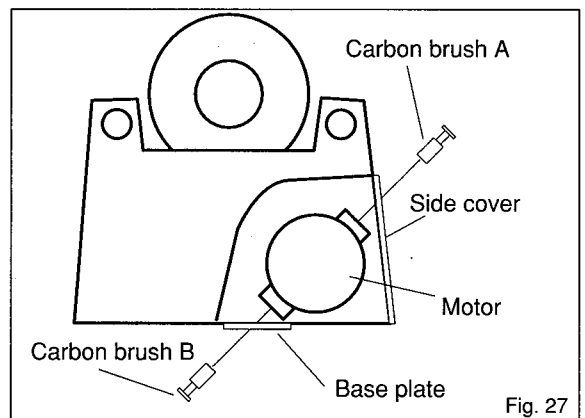

Fig. 27
2. Replacing the Carbon Brushes (Fig. 27)